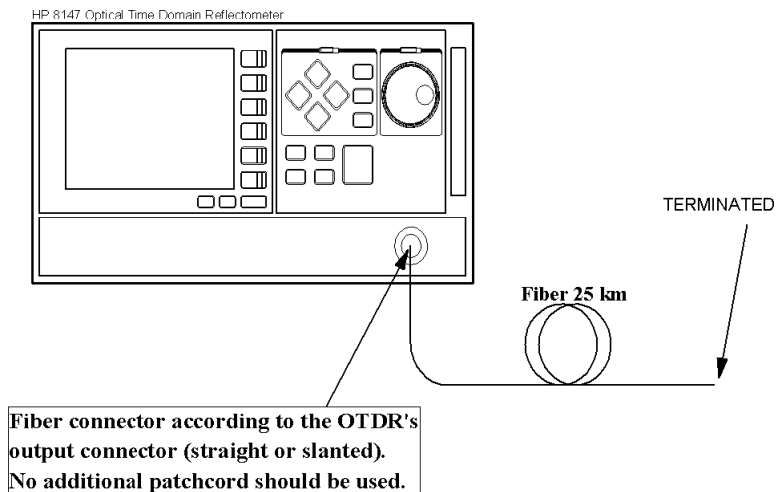

Figure D-1
- 1 Connect the equipment as shown in Figure D-1.